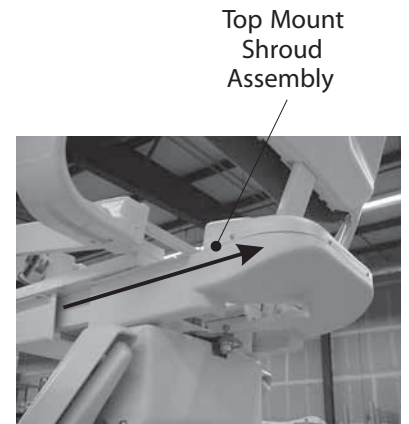

Figure 1.
- ① Raise the chair base all the way up and its backrest all the way up for easy access, then toggle the dental chair Power Switch to the OFF position for safety.
- ② Remove the Seat Upholstery by first removing the "2" Phillips Head Mounting Screws from the underside of the Seat Upholstery located towards the toe of the seat.
- ③ Remove the Top Mount Shroud Assembly, to do this first remove the "2" Phillips Head Mounting Screws with Nylon Washers from the top (one each side). Then slowly slide the Top Mount Shroud Assembly away from the chair as shown, See Figure 1.